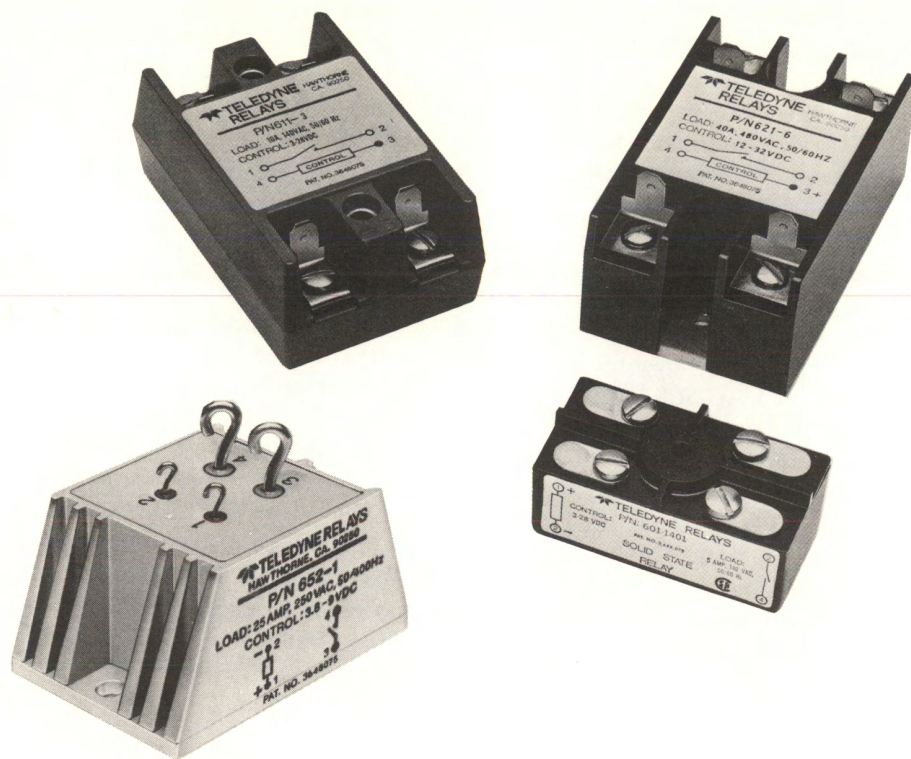

Fig. 2-7 Chassis mount SSRs.
b) Heat Sink Mounted Packages – Figure 2-7 shows a variety of standard SSR configurations designed for mounting to a heat sinking surface. These package styles require one or two mounting screws and feature screw terminals, quick disconnects, or dual purpose screw/quick disconnect terminals (Teledyne 611 Series). Thermally conductive grease should be used between the SSR mounting surface and the heat sinking surface to assure efficient uniform heat transfer.